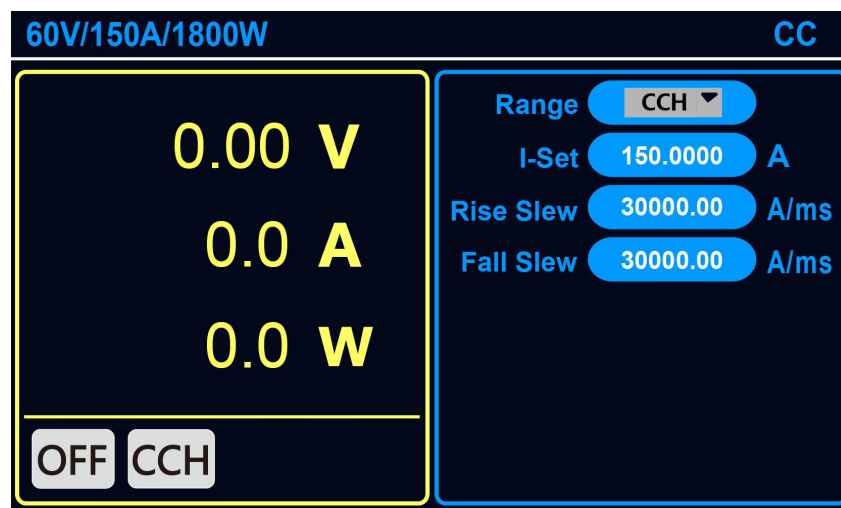

Figure 18 CC mode
6. Press the "On/Off" key to turn on, and the display state is "ON", as shown in Figure 18.